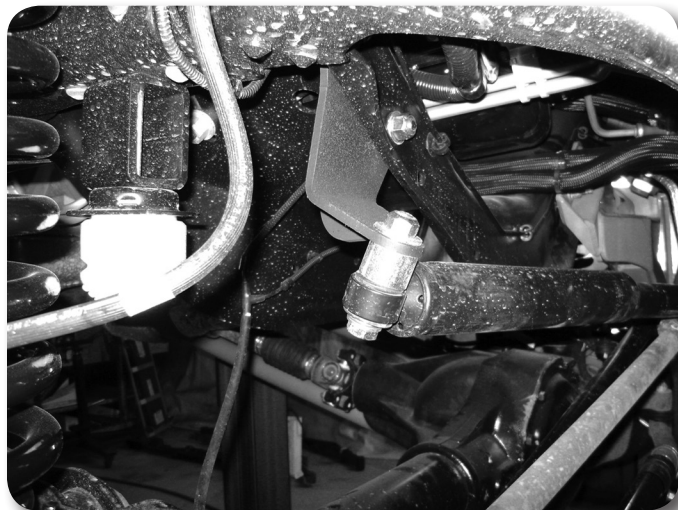

Figure 19
41. Install the factory steering stabilizer below the new frame mount with the provided 12mm hardware and 3/4" steel spacer. **Figure 19.**